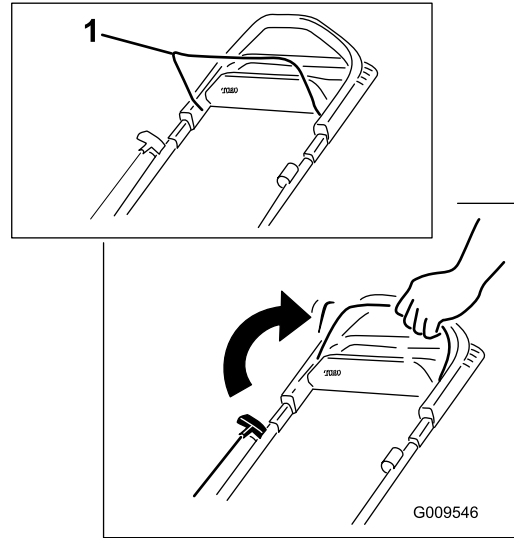

Figure 14
1. Hold the blade-control bar against the handle (Figure 14).